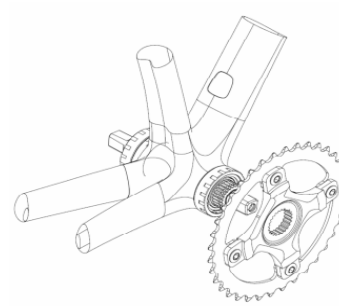

Figure 7
- (4) Adjust the torque of the constant torque wrench to  $(10\pm 2)$  Nm, use the wrench to screw the left cap 2 into the left cap 1, and tighten it.
- (5) Align the spline keyway of the crank set assembly with that in the sensor sleeve and slowly push it into the end as shown below.
- (6) Adjust the torque on the constant torque wrench to 35Nm, and use it to screw the bracket locking ring into the external thread of the torque body, and tighten the bracket locking ring as shown figure 7.